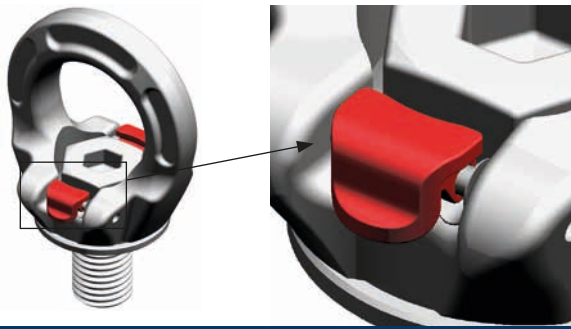

Fig. 4: Position 'B' – none of the latches are touching the screw, the lifting point is only ready to be used in this position.
- Fold the latches down into position 'B' as shown in fig. 4. The latches are again held in position by the spring. Before hooking in the lifting device, make sure that the latches are in position 'B' and are not touching the screw.